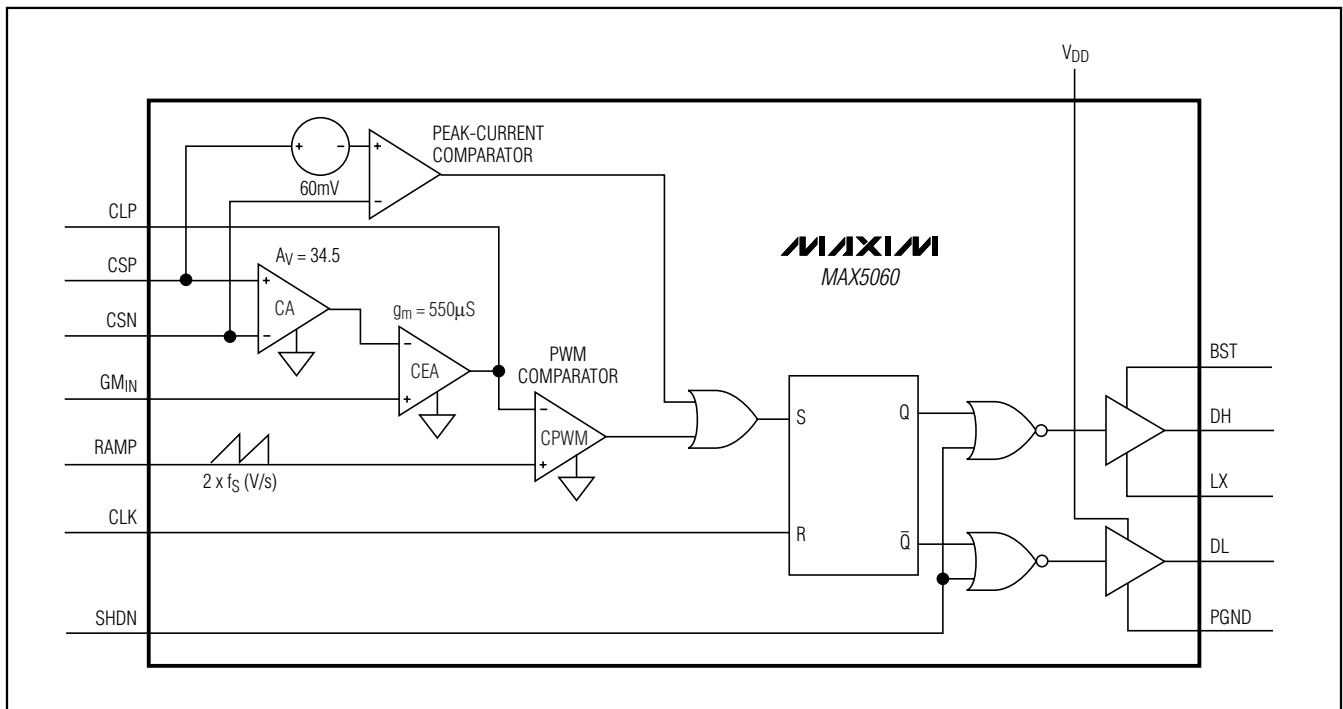

Figure 6. Phase Circuit
The current loop consists of a current-sense resistor ( $R_{SENSE}$ ), a current-sense amplifier (CA), a current-error amplifier (CEA), an oscillator providing the carrier ramp, and a PWM comparator (CPWM) (Figure 6). The precision CA amplifies the sense voltage across  $R_S$  by a factor of 34.5. The inverting input to the CEA senses the CA output. The CEA output is the difference between the voltage-error-amplifier output (EAOOUT) and the amplified voltage from the CA. The RC compensation networks connected to CLP provide external frequency compensation for the CEA. The start of every